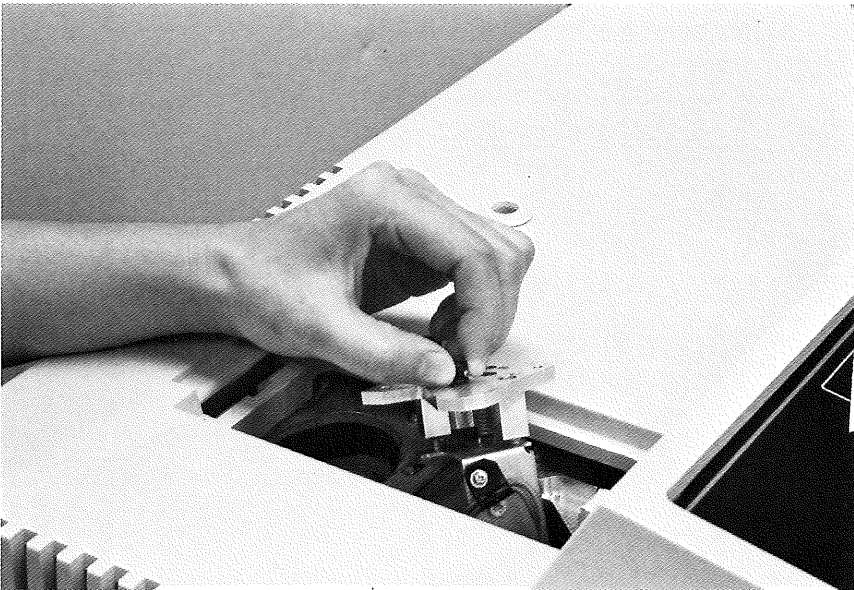

Figure 8-9.
4. Holding the knob with the left hand, remove source by lifting straight up. Guide cable through source mounting bracket. See Figure 8-9. Be careful not to pull too hard on the source power leads.